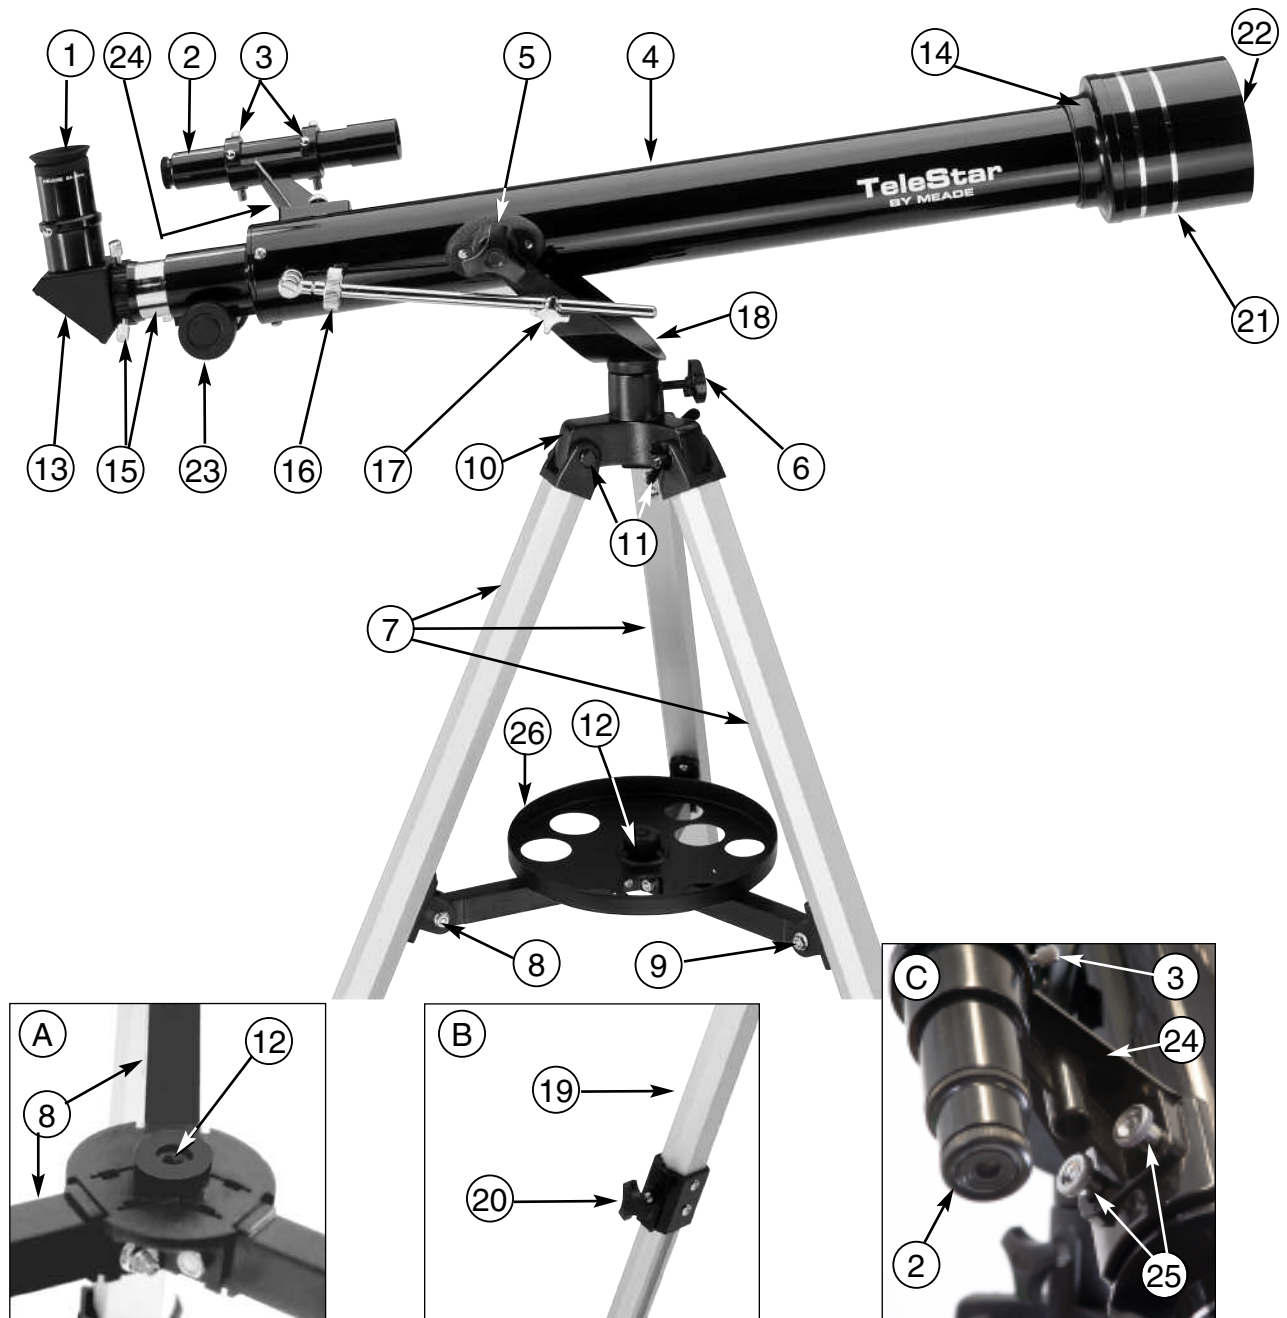

Figure 1: Telestar 60AZ-A Altazimuth Refracting Telescope
STANDARD EQUIPMENT (Refer to Fig. 1)
2. Attach the 3 aluminum tripod legs (7, Fig. 1) to the base of the altazimuth mount (10, Fig. 1) with the 3 leg brace supports (8, Fig. 1) facing inward. Line up the holes of the tripod legs (11, Fig. 1) with the holes on the mount base attachment and thread the three included bolts through the holes. Thread the wing nuts over the bolts and hand-tighten to a firm feel. Stand the telescope upright and spread the tripod legs evenly apart so that the accessory tray can be positioned for attachment to the leg braces.
3. To attach the leg braces to the tripod, line up the holes in the leg braces (9, Fig. 1) with the holes in the leg brace supports (8, Fig. 1) and slide the the included 1/2" screws through the holes. Thread the included nuts over the end of the bolts and hand-tighten to a firm feel.
4. To attach the accessory tray (26, Fig. 1) to the leg braces (9, Fig. 1), place the round accessory tray over the over mounting bolt hole (12, Fig. 1). Thread the attachment knob into the mounting hole on top of the tray and turning the knob clockwise. Tighten to a firm feel, but do not overtighten—you need to remove the tray if you wish to collapse the tripod. To remove the tray, just rotate the knob counterclockwise and remove the knob. You can then lift and remove the tray.
5. Extend the sliding center portion of the adjustable height tripod leg (19, Fig. 1) to the desired length for all 3 legs. Lock the tripod legs by tightening the leg lock thumbscrew (20, Fig. 1) to a firm feel. See **Inset B**.
10. Attach the viewfinder bracket (2, Fig. 1) to the telescope using the 2 thumbscrews provided (25, Fig. 1). The thumbscrews fit through the 2 holes located at the base of the viewfinder bracket and thread into the main tube (see Fig. 1, Inset C).
11. Insert the diagonal mirror (**13, Fig. 1**) into the focuser drawtube (**15, Fig. 1**) and the MA 25mm eyepiece (**1, Fig. 1**) into the diagonal mirror. Tighten the respective thumbscrews to a firm feel.
12. The telescope is now completely assembled. To move the telescope and point it from one object to another, first slightly loosen one of the chrome-lock (star-shaped) knobs (**5, Fig. 1**) which serve as a vertical lock, then loosen the azimuth (horizontal) lock (**6, Fig. 1**). Also, slightly loosen the altitude coarse adjustment lock knob (**17, Fig. 1**). Loosening these locks allows the telescope to be moved freely (vertically or horizontally) in any direction so that the telescope can be positioned to center a terrestrial or celestial object in the telescopic field. Once an object is found, the altitude lock knob (**17, Fig. 1**) can be tightened and the altitude slow-motion fine-adjustment control knob (**16, Fig. 1**) can then be used to make very smooth and accurate tracking in the vertical axis.
The 5 x 24mm viewfinder (**2, Fig. 1**) is a low-power, wide-field sighting device that, once aligned, will allow you to point the telescope with greater precision. **Note:** *When you look through the viewfinder, you will see a crosshair with images that will be upside-down; this is normal.*
1. Remove the lens cap (**22, Fig. 1**) of the optical tube assembly. Insert the 25mm wide-field eyepiece into the diagonal mirror (**13, Fig. 1**). Point the optical tube assembly (**4, Fig. 1**) at a distant land object (e.g. a distant telephone pole). Make sure the detail of the distant object you have chosen is in sharp focus. Focusing is accomplished by turning the focusing knob (**23, Fig. 1**) until the sharpest possible image is attained.
2. Center the viewfinder (**2, Fig. 1**) in both the front and rear rings using the collimation screws (**3, Fig. 1**). Next, looking through the viewfinder, adjust the collimation screws on the rear ring until the object centered in the telescope's main tube is likewise positioned in the center of the viewfinder's crosshairs. Now it is possible to quickly sight an object in the wide-field viewfinder first, then find that object approximately centered in the narrower field of the 25mm eyepiece of the telescope.
2. To center an object in the main telescope, first use the aligned viewfinder to find the object you wish to observe. If necessary, slightly loosen the vertical lock (**5, Fig. 1**) and the altitude rod lock knob (**17, Fig. 1**) to re-position the telescope so that the desired object can be centered in the viewfinder. When the object is centered in the viewfinder, it should then, also, be somewhere in the main telescope's field of view. Next, using the 25mm eyepiece, center the object in the main telescope's field of view, and sharply focus the image by turning the focus knob (**23, Fig. 1**).
To use the 2x Barlow lens, insert the 2x Barlow lens into the diagonal mirror (**13, Fig. 1**) followed by the 25mm eyepiece (**1, Fig. 1**). Refocus until the image is sharp.
As with any quality optical instrument, lens surfaces should be cleaned as infrequently as possible. A little dust on the surface of the objective lens (**14, Fig. 1**) causes negligible degradation of image quality and should not be considered reason to clean the lens. When lens cleaning does become necessary, use a camel hair brush or compressed air to gently remove dust. Wipe only with a soft, clean cloth, applying as little pressure as possible to avoid scratching glass surfaces. **Note:** Gently pull off and remove the dew shield/lens shade (**21, Fig. 1**) to access the objective lens (**14, Fig. 1**).